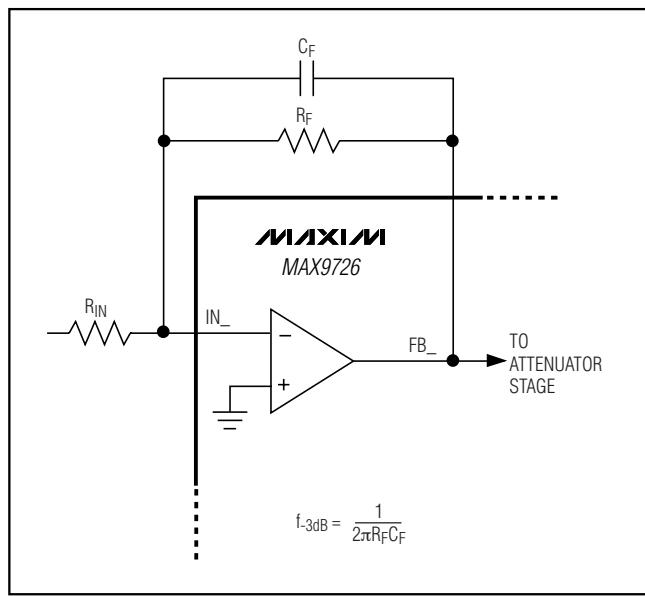

Figure 9. Single-Pole Active Lowpass Filter
To configure the MAX9726 as an active single-pole lowpass filter (Figure 9), connect a single feedback capacitor (CF) in parallel with the feedback resistor (RF). The -3dB point (below passband) of the active lowpass filter is equal to: